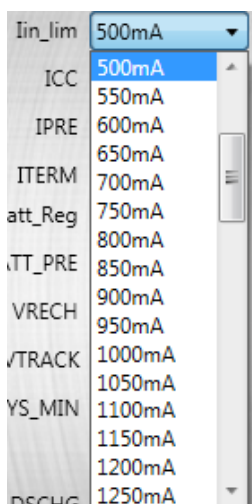

Figure 7: Input Current Limit Setting
5. Set the input current limit (see Figure 7). Its range is 100mA to 3250mA, and the default value is 500mA. Set it to the value that meets the input source capacity.